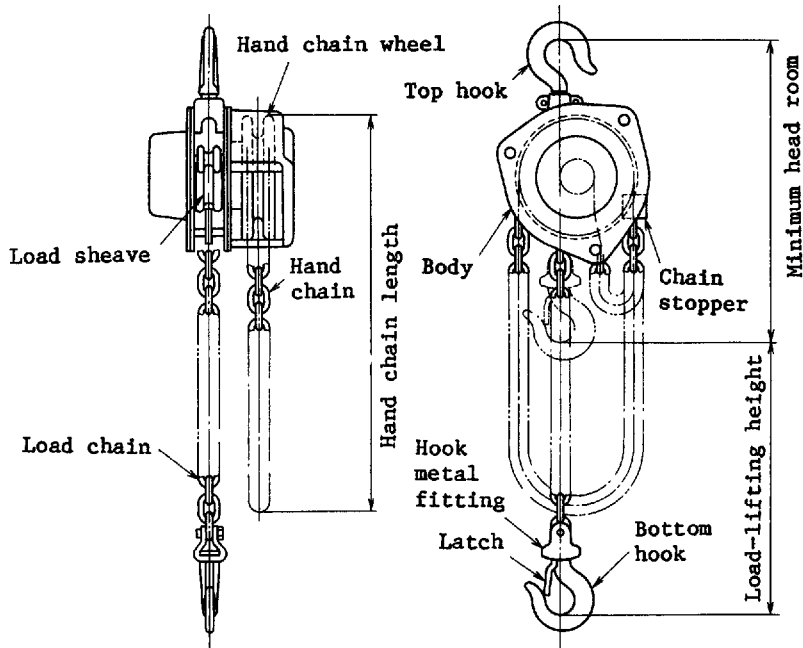

Fig. 2. Trolley type (plane trolley type) (an example)
- (2) Trolley type(³) (see Fig. 2)
- (2) Plane trolley type (see Figs. 2 and 4)